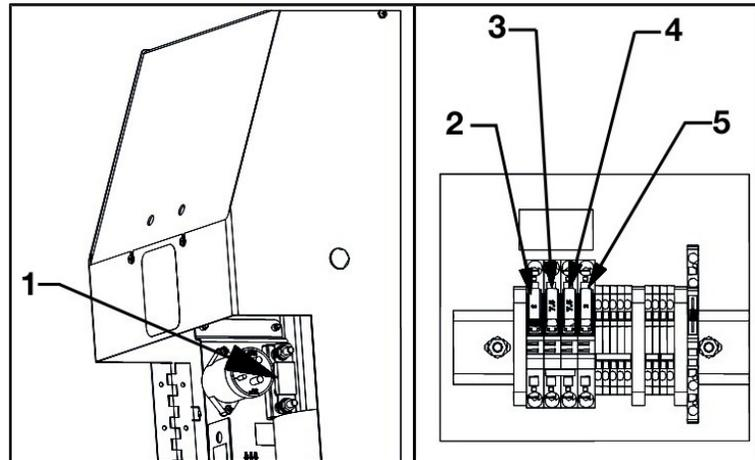

Fig. 24: Fuse locations
2. Hydraulic power unit motor is protected by a 200 Amp ANL type fuse located inside the door mounted to a fuse block (Fig. 24, Pos. 1).
3. Down stop limit switch signal to control box is protected by a 3 Amp ATM blade type fuse. The fuse is installed in the furthest right slot of the fuse block located on the back side of the door (Fig. 24, Pos. 5).
4. Control box is protected by a 7.5 Amp ATM blade type fuse. The fuse is installed in the second slot from the right of the fuse block located on the back side of the door (Fig. 24, Pos. 4).
5. Down stop assembly circuit is protected by a 7.5 Amp ATM blade type fuse. The fuse is installed in the third slot from the right of the fuse block located on the back side of the door (Fig. 24, Pos. 3).
6. Control box screen charging circuit is protected by a 3 Amp ATM blade type fuse. The fuse is installed in the furthest left slot of the fuse block located on the back side of the door (Fig. 24, Pos. 2).